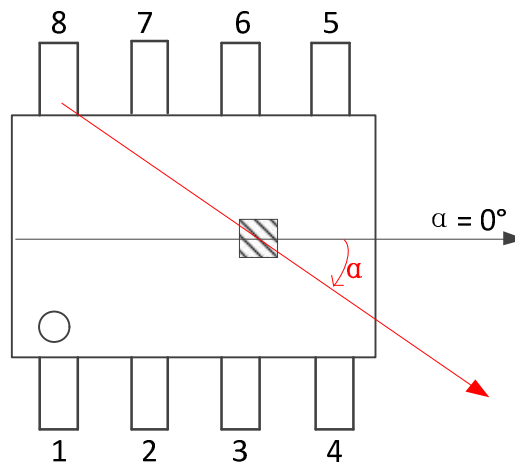
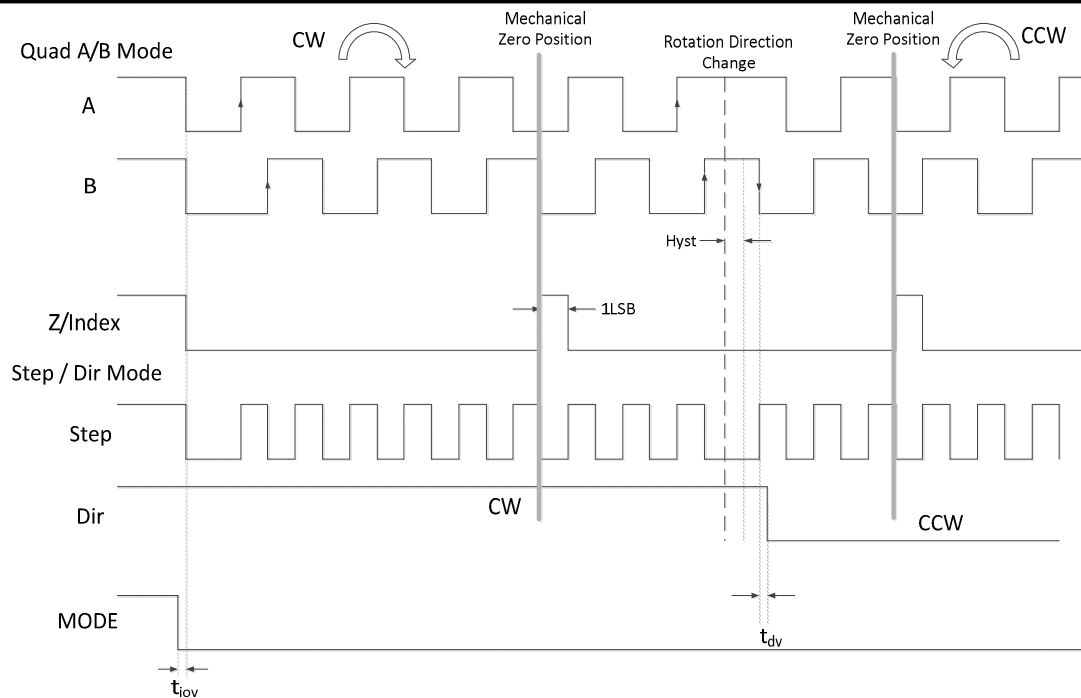

Figure 1: Pin Configuration for SOP-8 Package, Showing Zero Degree Position
Figure 3: Typical Output Waveform for A/B/Z and Step/Dir/Index mode
Figure 3, when the magnet rotates clock-wise (CW), output A leads output B by 1/4 cycle (or 1 LSB); When the magnet rotates counter-clock-wise (CCW), output B leads output A by 1/4 cycle. Output Z indicates the zero position of the magnet and has a pulse width of 1 LSB. It is guaranteed that one Z pulse is generated for every rotation. The zero position is user-programmable, but it is recommended to keep it within +/-30 degrees from the original position as shown in Figure 1.